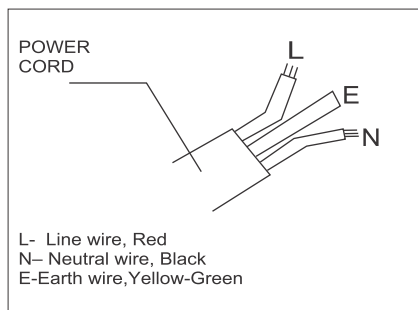

Fig.1
1. Power cord conductors are distinguished according to color as follows (shown in Fig.1).
2. For your safety and protection, this unit is earthed through the power cord (shown in Fig.1).